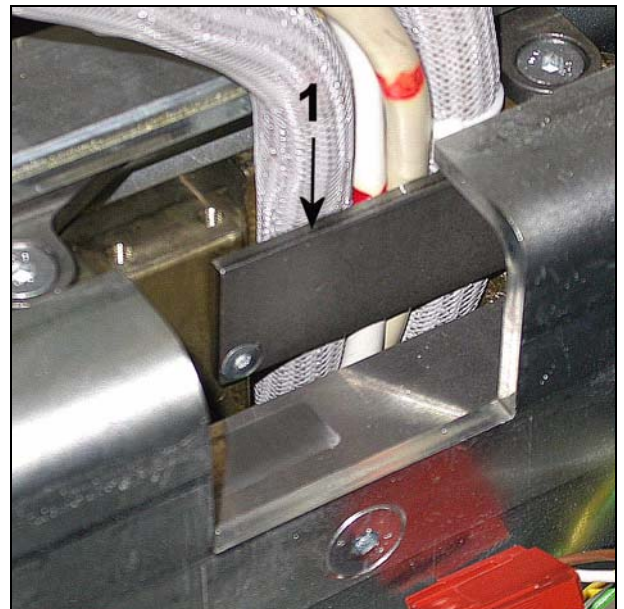

Fig. 20
- Unscrew the cable guide (1/Fig. 20). After moving the horizontal carriage, the second screw of the cable guide will be accessible.